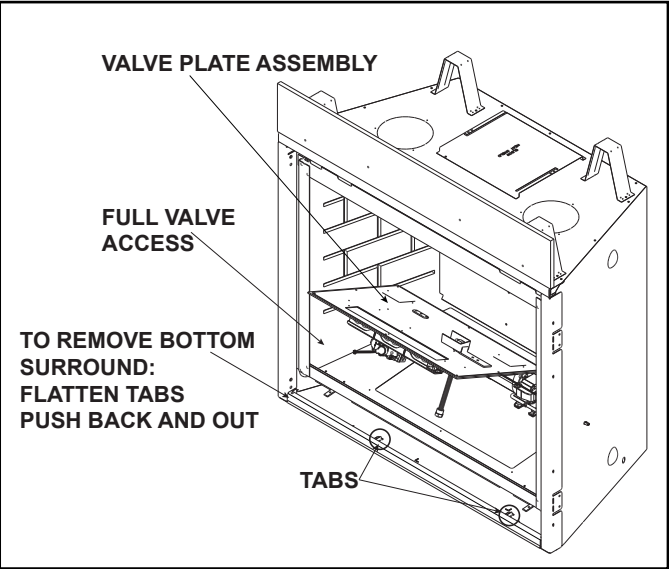

Figure 9.3 Gas Valve Access
- See Figure 9.3.
- Remove decorative barrier front, glass, logs, base pan assembly, burner assembly and valve plate assembly. See Figure 9.3.